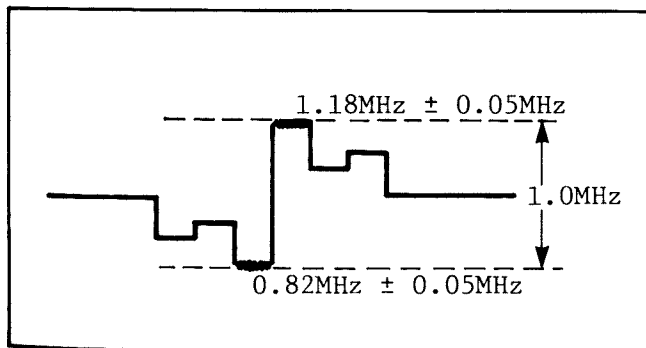

Fig. 2-5-16. Q DEVIATION
1. Remove the screw (A), then remove the VIDEO PROCESSOR P.C.B. (P-1). Connect extension cable between VIDEO PROCESS and connector in the unit.
7. Adjust VC3 (Q FREQ) and VR2 (Q DEV) so that the frequency of the minimum Q level is $0.82\text{MHz} \pm 0.05\text{MHz}$ and the frequency of the maximum Q level is $1.18\text{MHz} \pm 0.05\text{MHz}$ and the deviation is $0.36\text{MHz} \pm 0.015\text{MHz}$ as shown in Fig. 2-5-16.